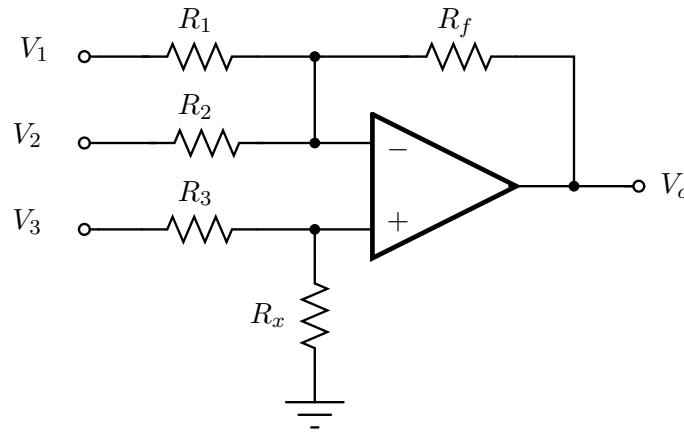

Figure 2:
1. Obtain an expression for V_o in terms of V_1 , V_2 , V_3 and the resistances in Figure 2.